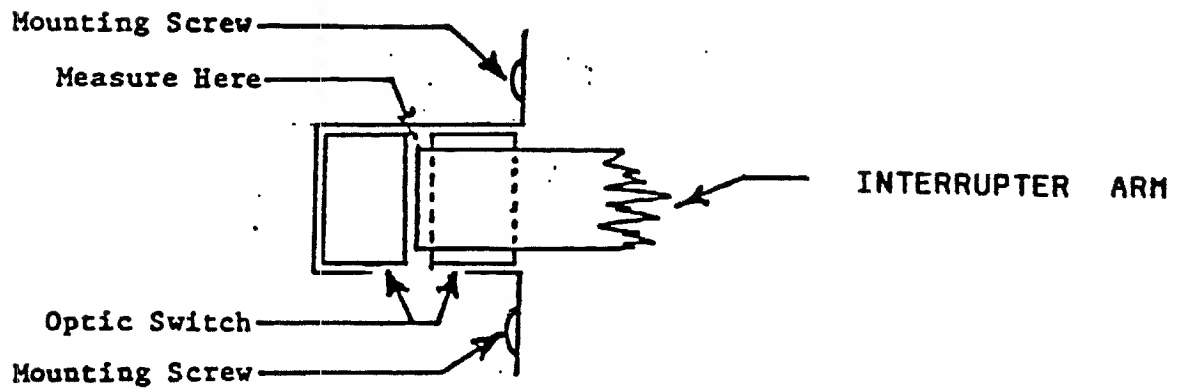

FIGURE 3
- (5) Use the .010 inch and the .070 inch wire gauges to insure that the clearance between the top of interrupter arm and optic mounting bracket (See Fig. 3) is between .010 and .070 inches. If it is not then perform the adjustment procedure on the next page.